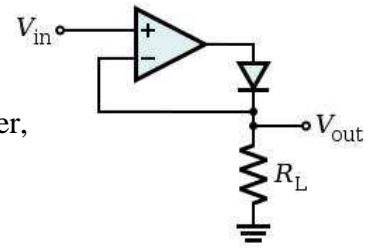

Figure 16
- 1- Construct the circuit shown in Figure 16 using  $R_L=1k\Omega$ .